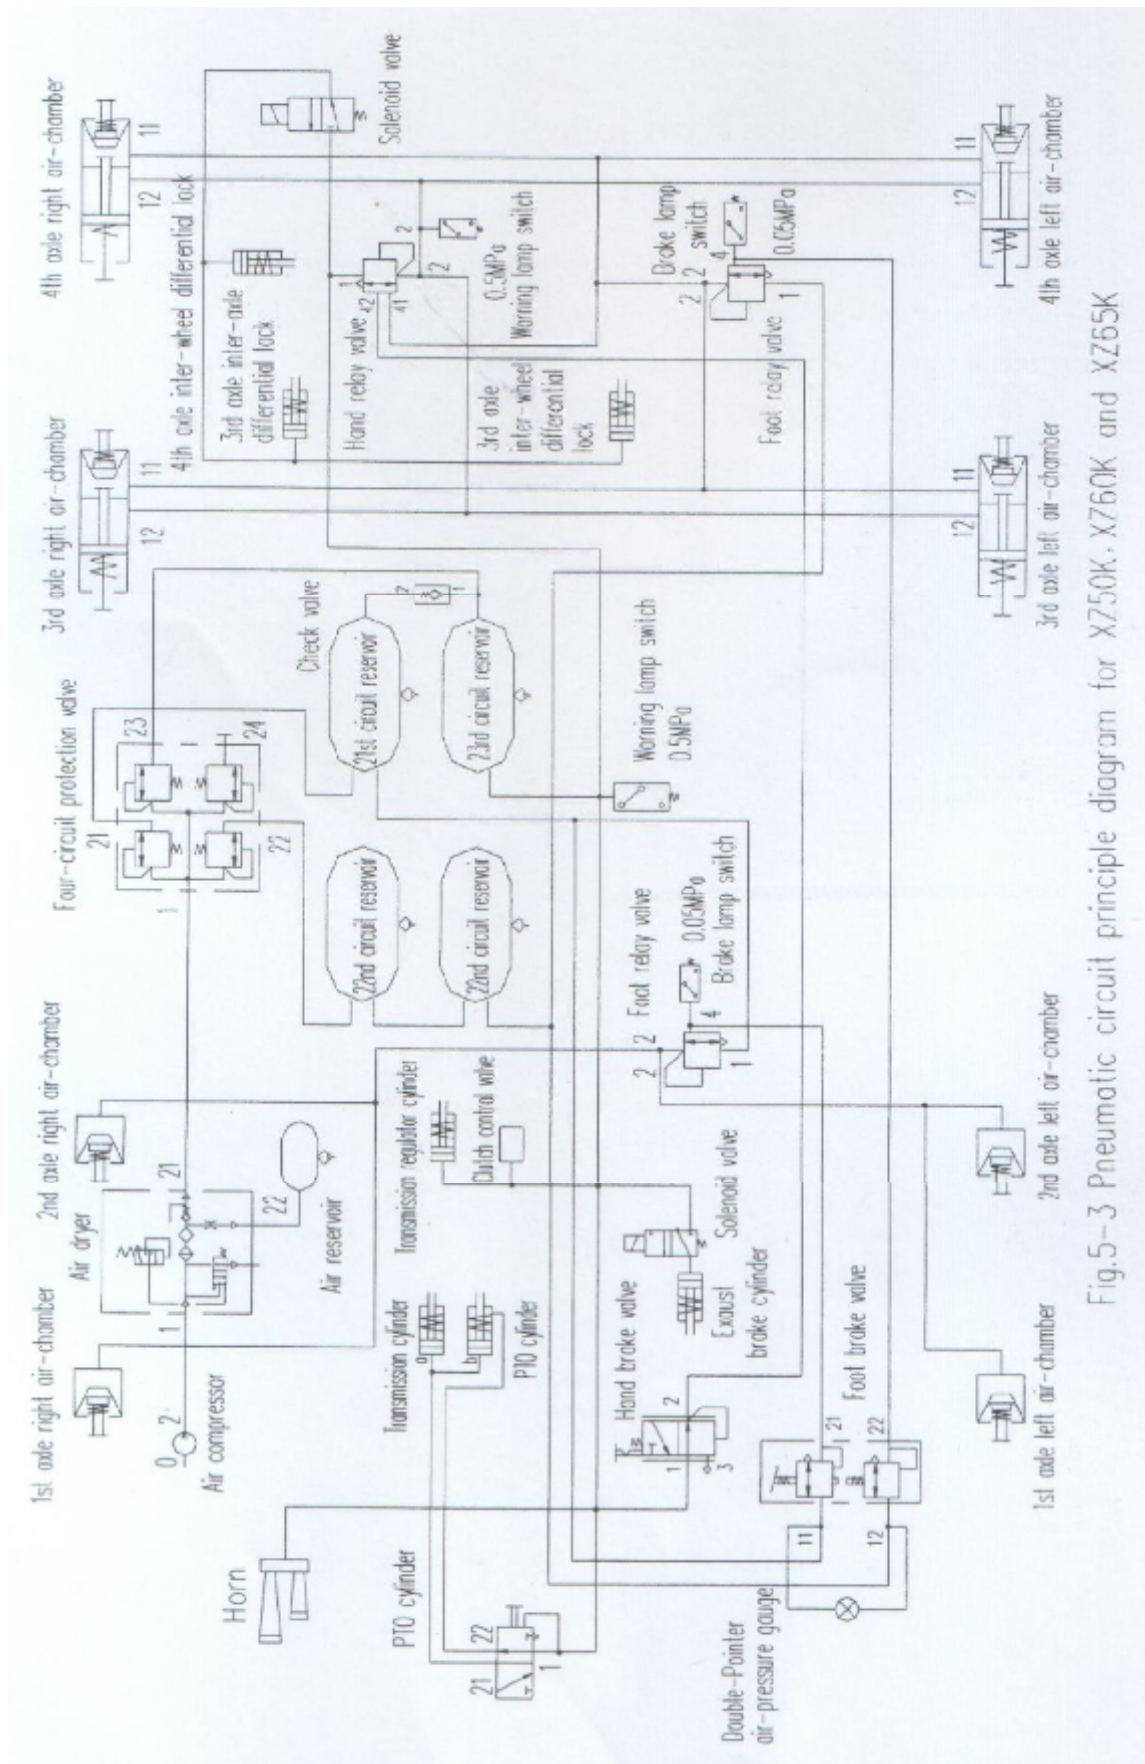

Fig.5-3 Pneumatic circuit principle diagram for X750K, X760K and XZ55K
5. Fig. 5-3 é para o chassi do XZ50K, XZ60K e XZ65K.